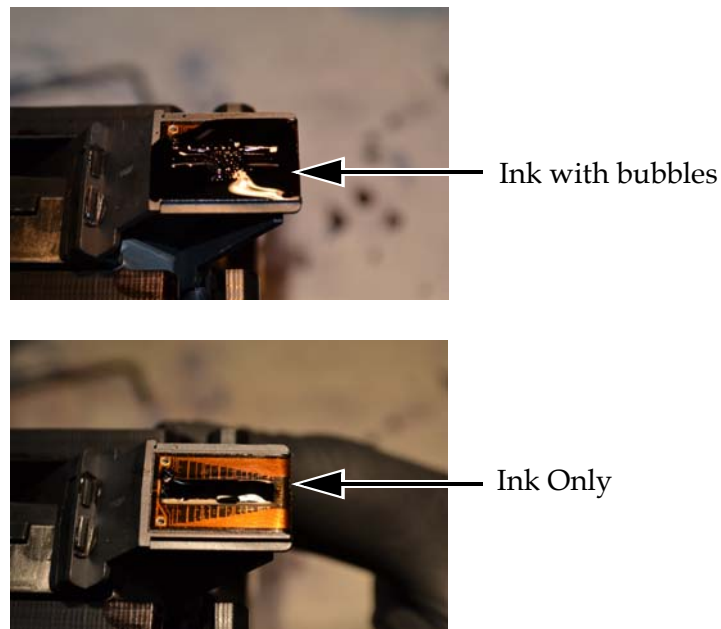

Figure 5-3: Pooled Ink on the Orifice Array
- 4 Use a priming tool (item 1) to gently press through the access hole until ink begins pooling onto the orifice array as shown in Figure 5-3 on page 5-4.